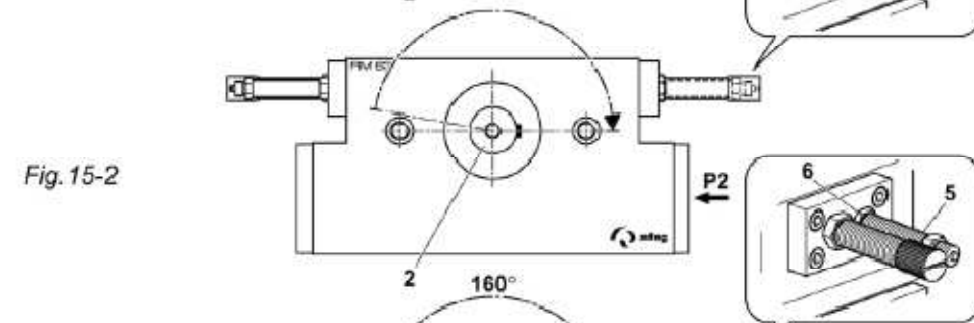

Fig. 15-2
4. Isolate the compressed air to (P1) and apply compressed air to (P2). The pinion shaft (2) turns in clockwise direction as fast as the limit determined by the stop screw (5) (Fig.15-2).